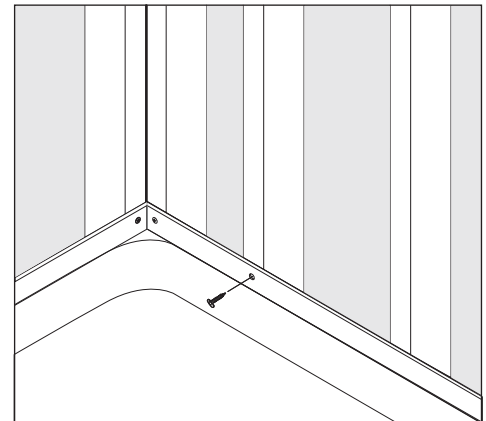

FIGURE 2. If necessary, shim between base and studs for tight fit and screw to each stud.
- After base is leveled, if alcove is larger than base, shim between base and studs to create a tight fit. Screw base flange to studs (**Fig. 2**).